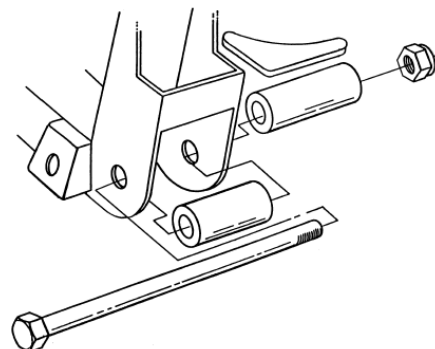

Figure 5
8. **If you are using stock components, skip over this step.** If you purchased a complete I.F.S. Package from HEIDTS, it was supplied with Full Lower A-Arms. Begin here by installing the Spacers onto the crossmember. The holes where the lower control arms attach to the Crossmember must be enlarged to 5/8". Mount the Crossmember Spacers and the Rear Spacers which were supplied with the Lower Control Arms as shown in **Figure 5** onto the Crossmember using the supplied Inner Bushing Bolts, Nuts and a temporary spacer under the Nuts. DO NOT use the A-Arms for this operation as the welding heat will melt the rubber bushings. Tighten the Bolts and Nuts tight. Weld the Rear Spacers to the Crossmember all around. Weld the Crossmember Spacers as far as possible inside the crossmember on both ends. Position the Gussets horizontally, not vertically, against the Rear Spacers and the back of the Crossmember. Weld Gussets to Spacers and Crossmember. When it cools, remove the bolt.